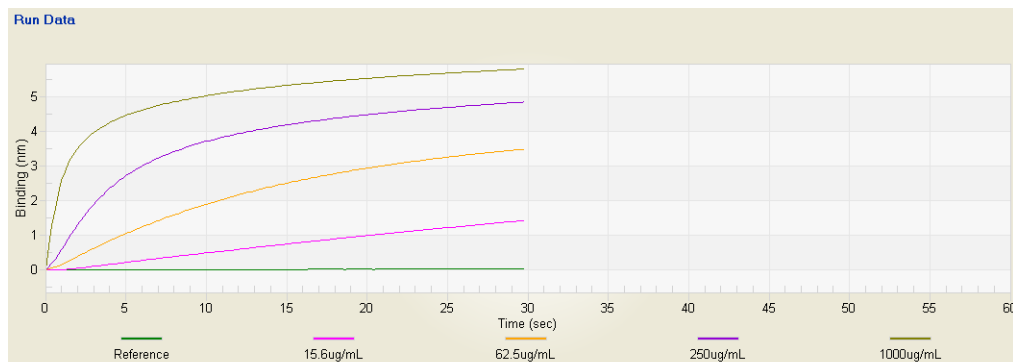

Figure 4-27: Inspecting the Run Data—Binding Signal Measured in nanometers (nm) as a Function of Time (seconds)
13. Inspect the Run data. The sensorgram (Figure 4-27) displays the results after five (5) runs.